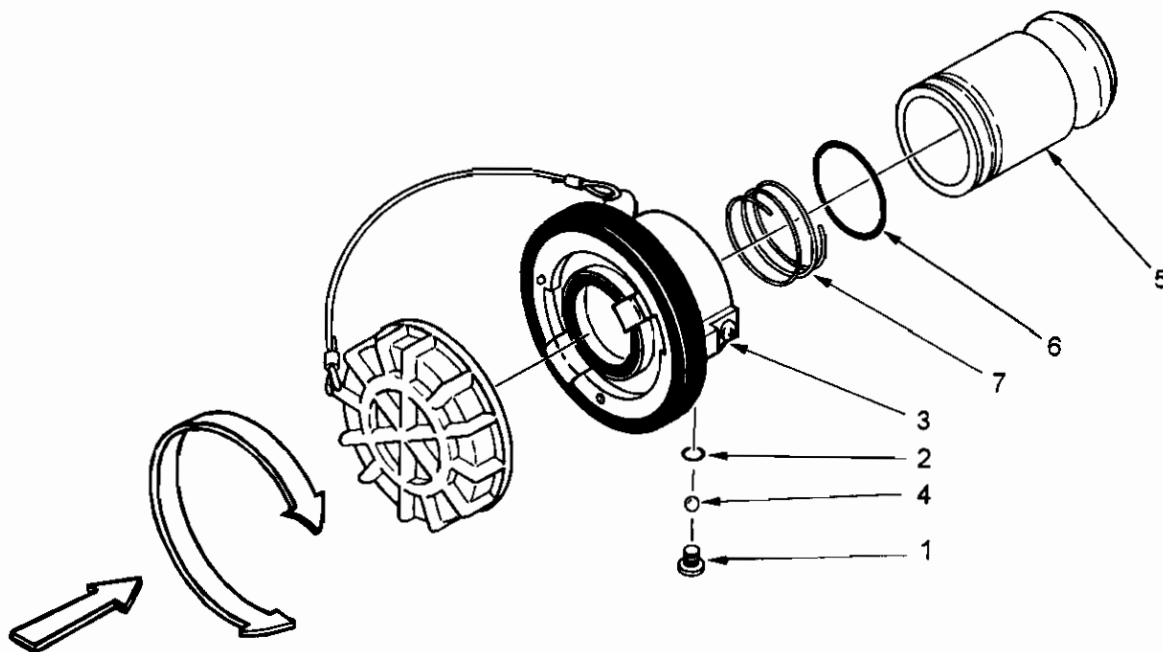

Figure 4-9. Removal and Installation of Two-Inch Non-Valved Unisex Coupling.
4.8.8 REPLACE TWO-INCH NON-VALVED UNISEX COUPLING. (Refer to figure 4-9.)